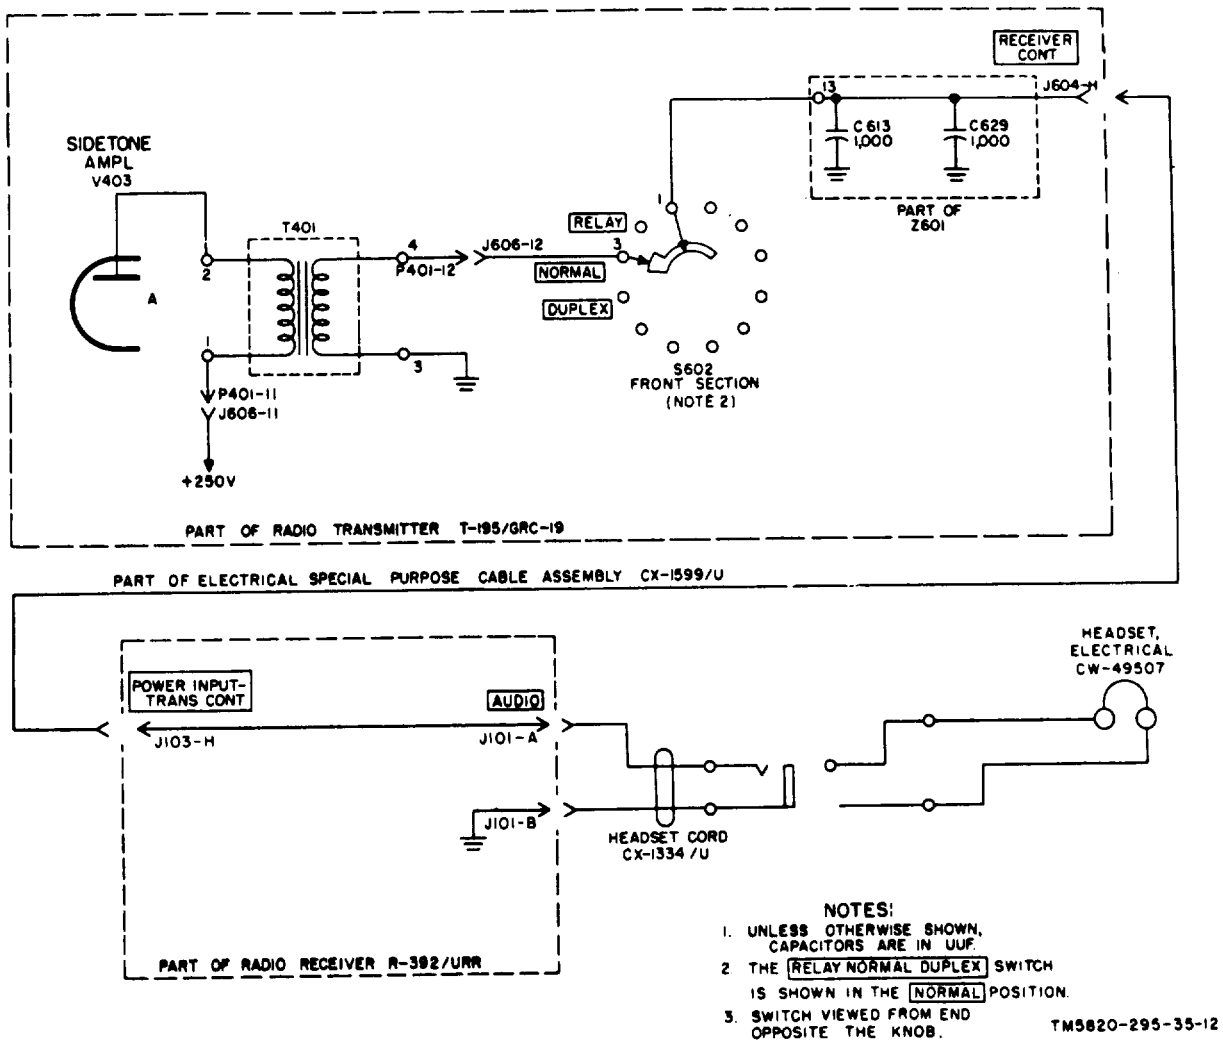

Figure 11. Sidetone circuit of radio set, simplified schematic diagram.
12. Sidetone Circuit (fig. 11)